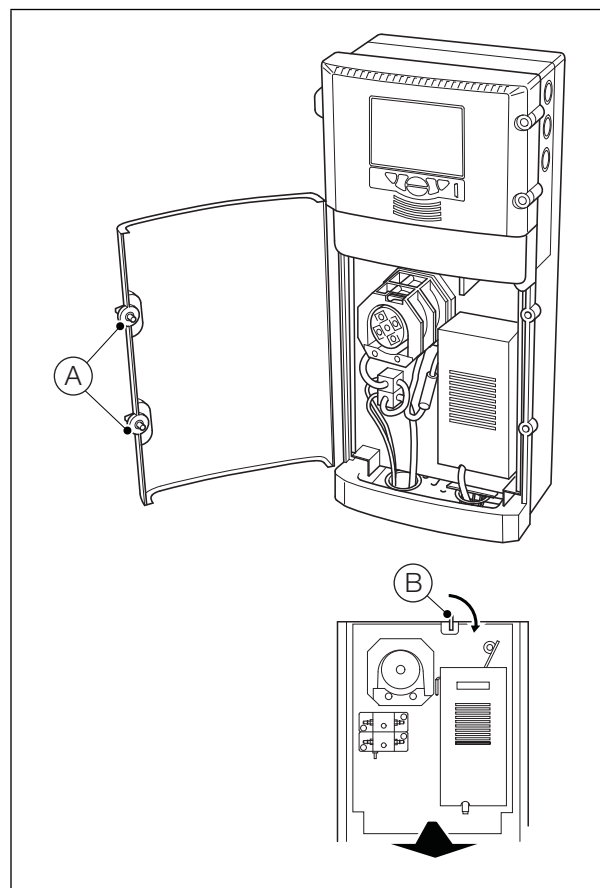

Fig. 13.1 Accessing the Pump
2. Referring to Fig. 13.1:
- a. Release thumbscrews (A) and open the liquid-handling section door.
- b. Unlock catch (B), pull the liquid-handling section panel forward and lock into the vertical position using catch (B).
10. Referring to Fig. 13.1:
- a. Release catch (B), push the liquid-handling section panel rearwards into the enclosure and lock it into position with catch (B).
- b. Close the liquid-handling section door and secure with thumbscrews (A).